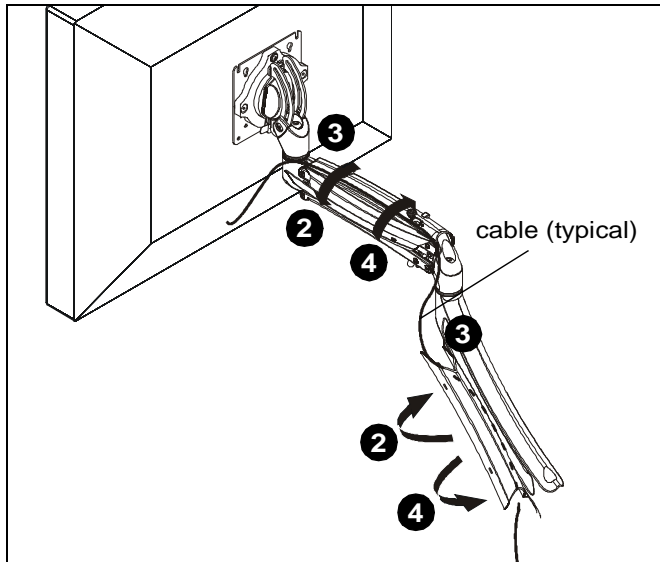

Figure 19
3. Route cables through cable management channels. (See Figure 19)
4. Close cable management covers on monitor arm. (See Figure 19)